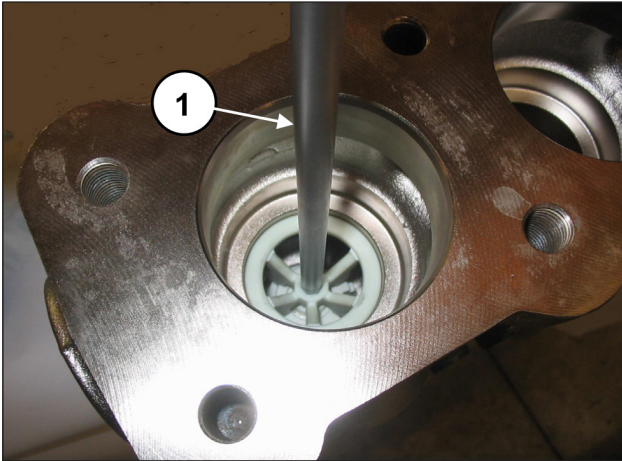

Fig. 111
Take out the valve guide spacer using an 8 mm hex wrench (pos. ①, Fig. 111).